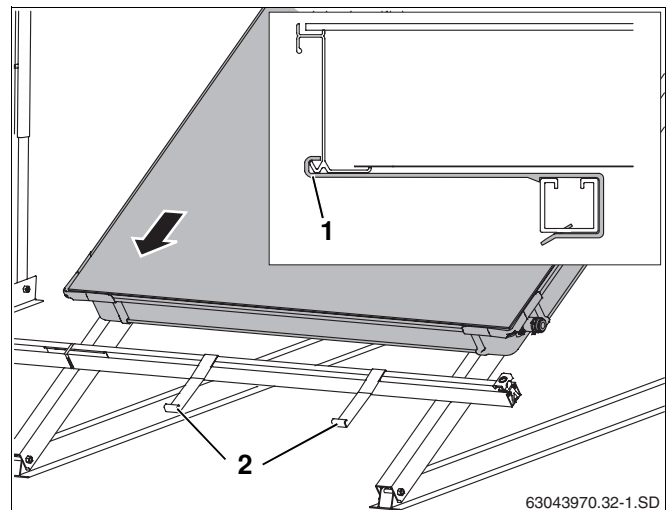

Fig. 45 Laying the first collector on the profile rails
- Place the first collector onto the profile rails and allow it to slide into the anti-slip protectors (Fig. 45, **Item 2**) (Fig. 45).
The lower collector edge must lie in the opening of the anti-slip protector (Fig. 45, **Item 1**).